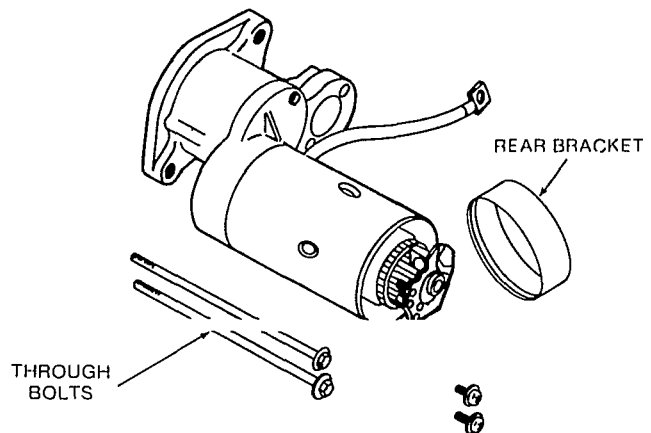

FIGURE 36a. REMOVING REAR BRACKET
3. Remove the two through bolts and brush holder retaining screws. Remove rear bracket (Figure 36a).